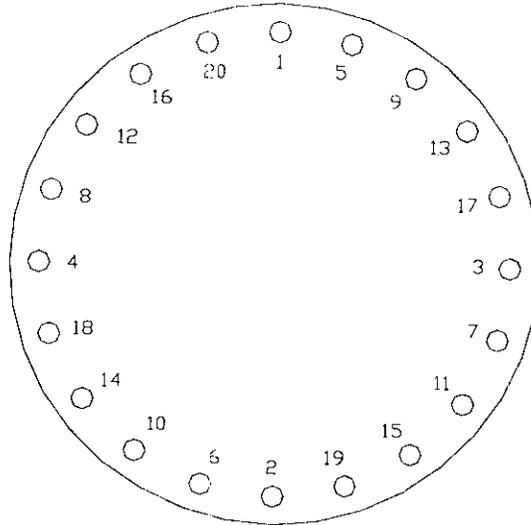

Figure 1.24 Tightening sequence for the 20 Conflat bolts.
- 1.24 On the power lead flange, number the Conflat bolt holes 1 through 20 as indicated by Figure 1.24.
- 1.26 Use a 5/16 12-point socket to tighten the 20 Conflat bolts. The tightening must be made gradually in 1/4 turn increments to a final torque of 15 ft-lbf (180 in-lbf). The tightening sequence is given by Fig. 1.24.